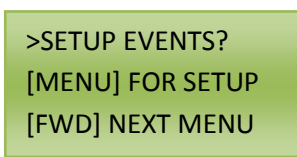

Figure 11.1
1. Press the MENU on the keypad and the screen will say >SETUP EVENTS? See figure 11.1 for visual description. If still in the Analog Inputs menu, just press BACK once and FWD once, to get to the >SETUP EVENTS? Press the ENTER button on the keypad to setup Events.